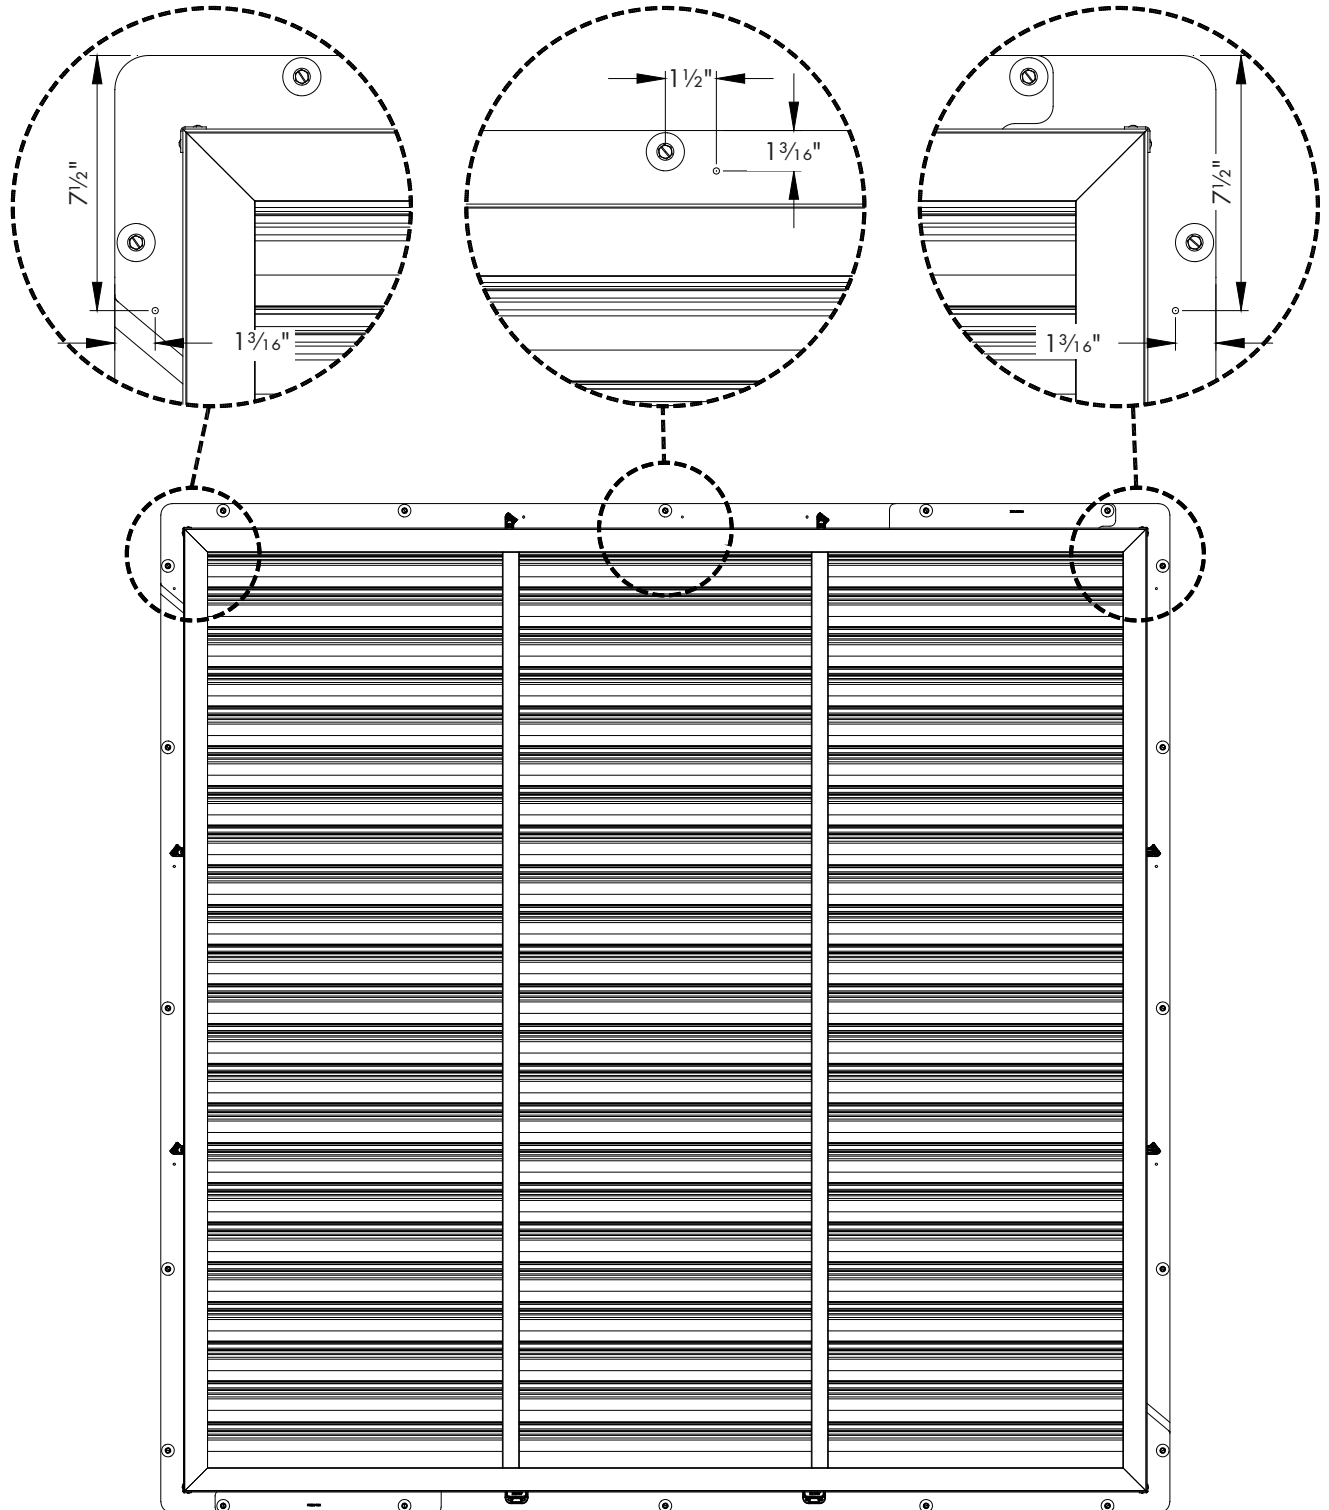

Figure 14
Drill (3)  $\frac{3}{16}$ " holes in the flange of the Atlas 74 fan. One hole should be in each side flange,  $1\frac{3}{16}$ " from the edge of each flange and  $7\frac{1}{2}$ " from the top edge of the flange. The 3rd hole should be  $1\frac{3}{16}$ " down from the top of the flange and  $1\frac{1}{2}$ " to the right of the center mounting screw. See Figure 14.